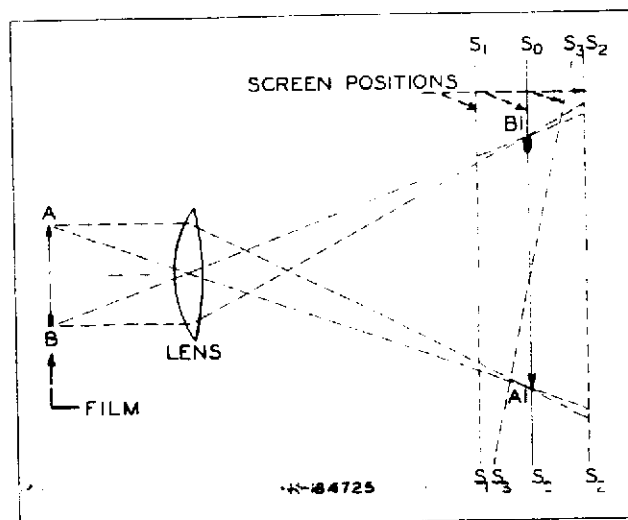

Figure 11—Formation of an Image
29. The projection of motion pictures on a screen is based on the principle of the formation of an image by a convex lens. This principle is illustrated in figure 11. Let AB represent any lighted subject, for example an illuminated film. Some of the rays of light from A are intercepted by the lens and are brought together at point A1 on the opposite side of the lens. For simplicity, only two rays are shown, one passing through the edge of the lens and the other through its center. Point A1 is the image of point A. In a similar manner, point B1 is the image of point B in the object. Every point in the object is represented by a point in the image.
31. The screen should be at right angles to the lens axis. Tipping the screen as indicated at  $S_3$ - $S_3$ , results in a picture which is out of focus at the top and at the bottom, although it may be sharp at the middle. Figure 11 also shows that the rays cross as they pass through the lens; therefore the image on the screen is inverted with respect to the film. In other words, the picture on the film should be upside down.
32. In a motion-picture projector each frame of the film is projected in the same manner as the single object in figure 11. It is not held long, however, but is merely flashed on the screen for a small fraction of a second. It is immediately followed by the next frame on the film, which is shown for an equally brief interval. In sound-motion-picture projection, 24 frames are shown every second. But this does not imply that each frame is held on the screen  $1/24$  of a second. The actual time is about  $1/2$  of this, for the screen is darkened twice per frame, once while the film is moving forward and again while a frame is being held stationary in the projector. If the light were not cut off while the film is in motion, the picture on the screen would be streaked and blurred; and if it were not cut off at least once while each frame is still, an annoying flicker would result.